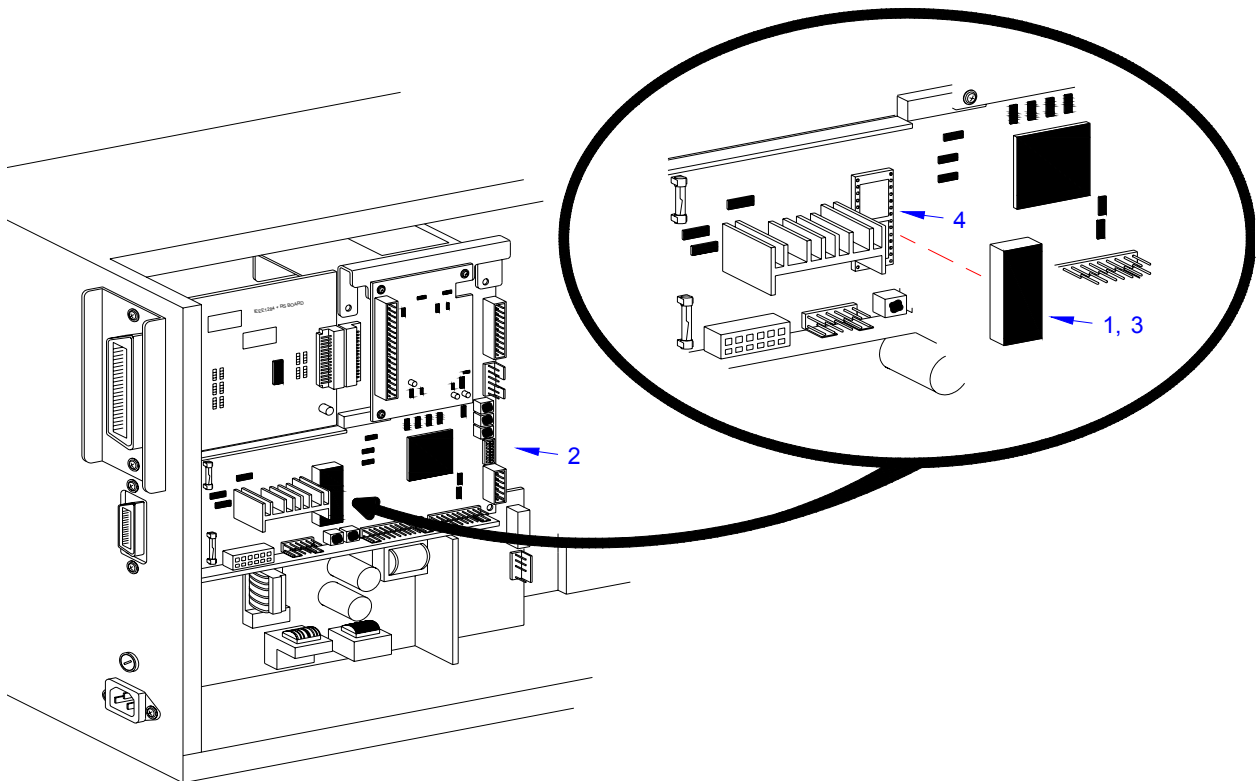

Figure 4-5, Real-Time Clock Installation
3. Locate and withdraw the EEPROM chip (1, Figure 4-5) from main circuit board (2).